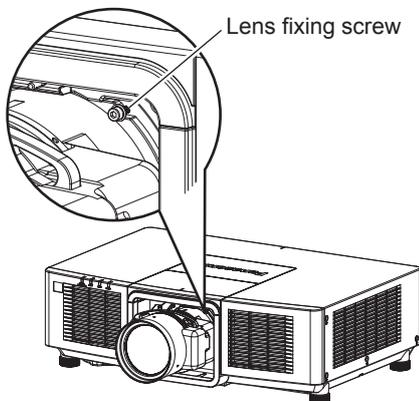

Fig. 1
- 1) **Remove the dustproof sponge. (Fig. 1)**
- 1) **Remove the lens fixing screw. (Fig. 1)**